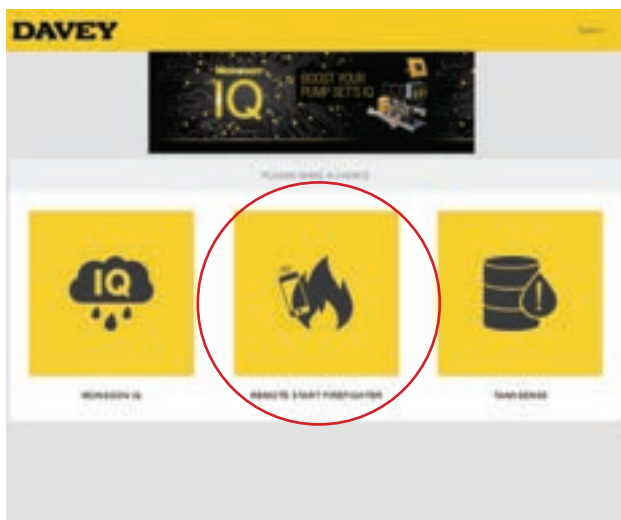

Figure 7.13
- > Click on the “REMOTE START FIREFIGHTER” thumbnail (Figure 7.13);